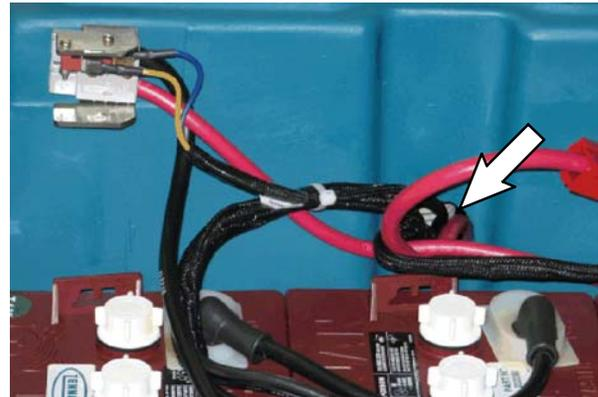

FIG. 4
- Route the other end of the jumper harness (7) along the main wire harness, through the hole in the back of the battery compartment, and to the rear panel. Refer to Fig. 4.